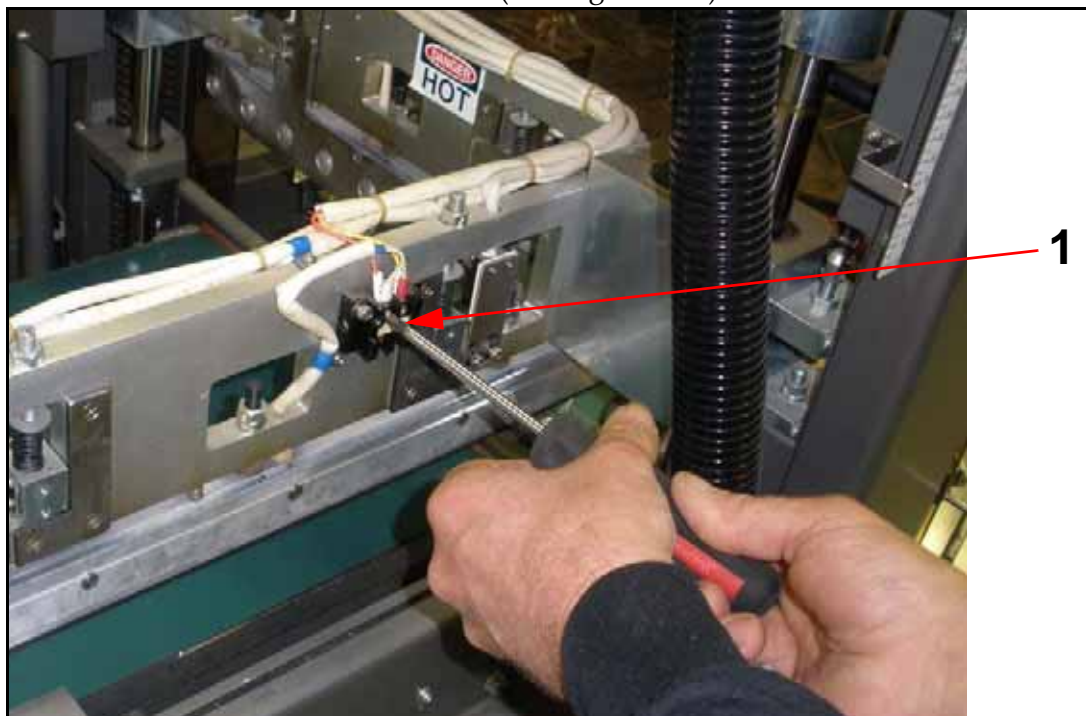

Figure 7-19. Thermocouple Terminals
- 6 Loosen two screws (1 in Figure 7-19) and remove terminals.